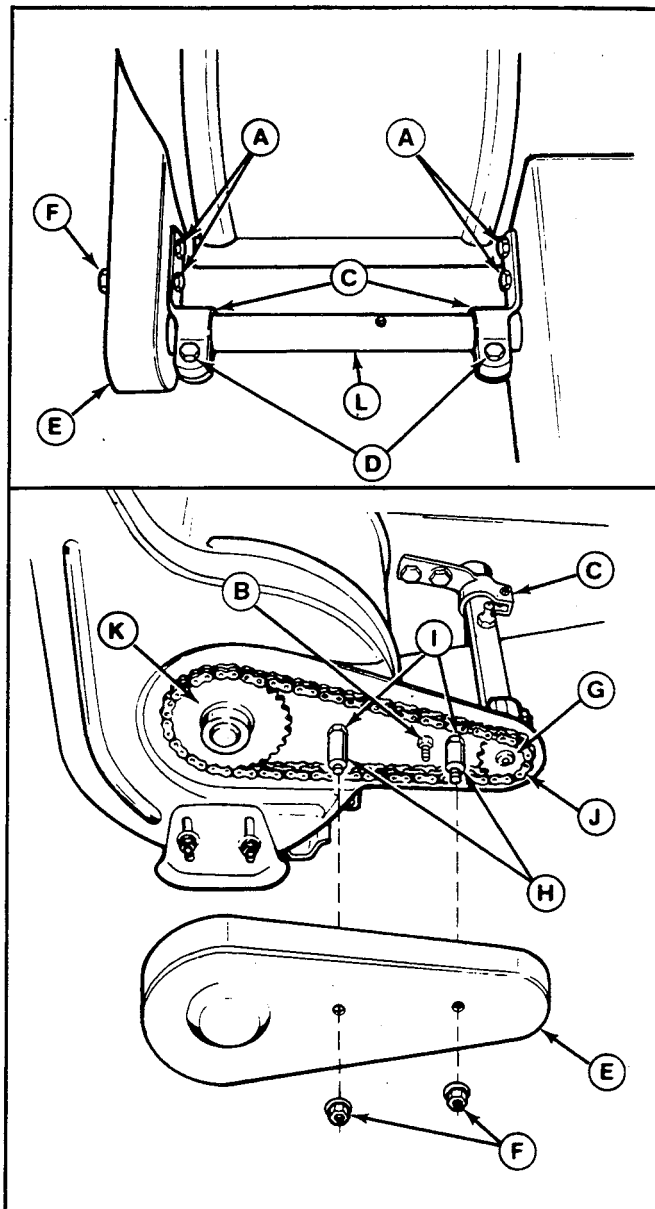

Figure 10. Drive Chain
1. Remove the chain guard (E, figure 10) by removing the two nuts (F).
3. There should be no slack in the chain and the sprockets (G and K) should be aligned. The drive shaft housing (L) should be parallel with the auger housing. To adjust, proceed as follows.
- a. Loosen the four screws (A).
- b. Pull rearward on the drive shaft housing (L) until all slack is removed from chain. With drive shaft housing parallel to auger housing and sprockets aligned, retighten the four screws. Be sure to hold nuts while tightening screws (A) and hold screws (inside housing) while tightening nuts (B). Torque to 40-50 ft. lbs.